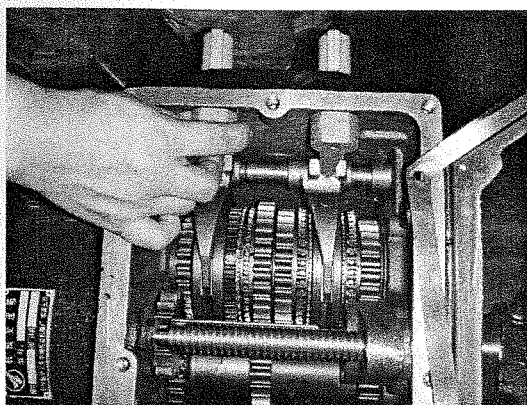
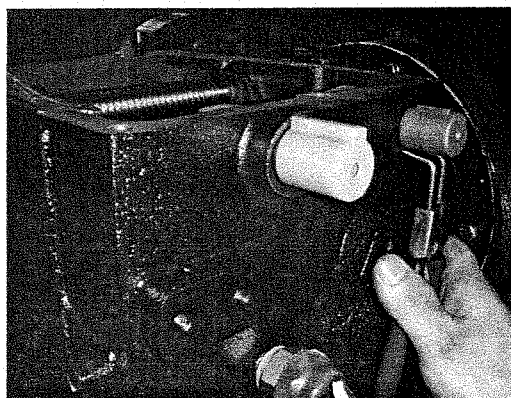

Fig 2-28
Fig 2-29
(6) Fit the rotary rod and O-ring together into the shell (Fig 2-28), and use snap ring to lock it up (Fig 2-29).